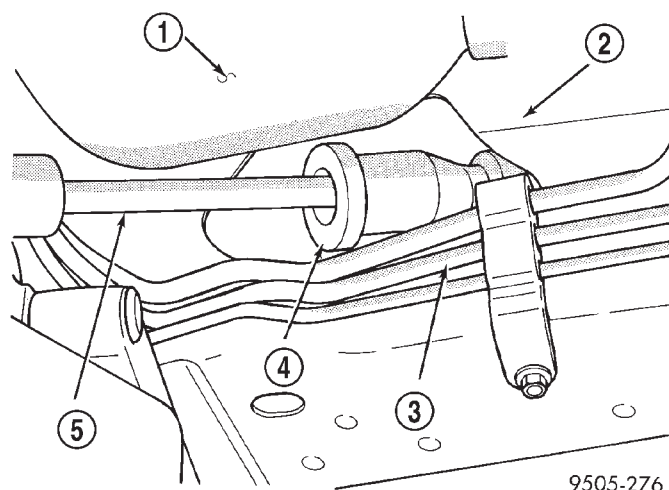

Fig. 148 Park Brake Cable Removal / Installation At Floor Pan
(29) Remove the park brake cable and sealing grommet (Fig. 148) from the floor pan of the vehicle.
(1) Install the parking brake cable into the floor pan. Make sure sealing grommet on park brake cable (Fig. 148) is installed in floor pan as far as possible to insure a proper seal.